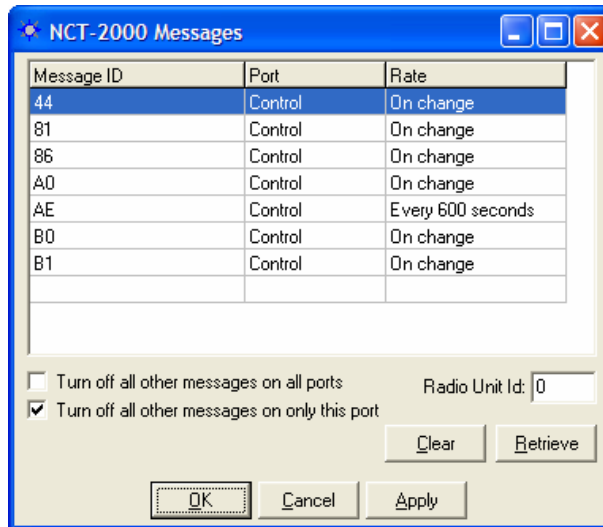
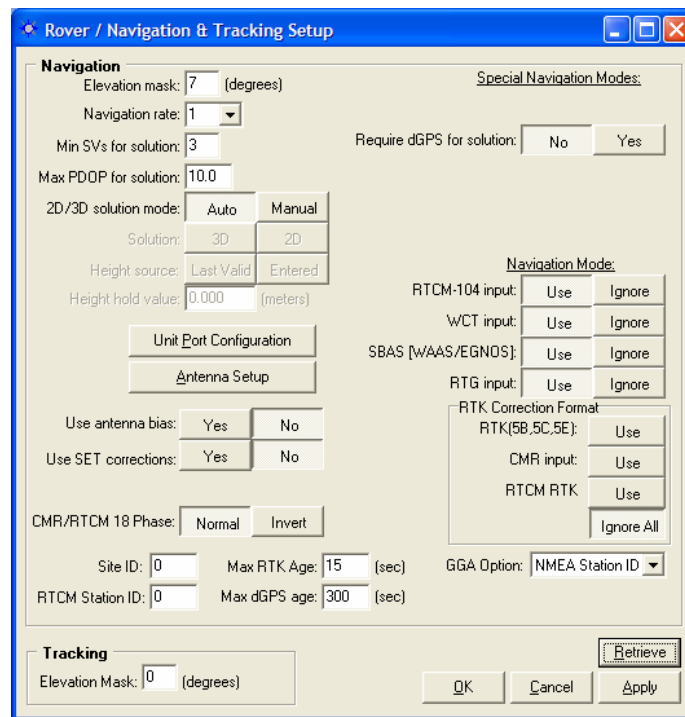

Figure 7: NCT-2100/NCT-2000 Message List
Figure 15: Rover Navigation & Tracking Parameters Setup
After choosing the message output type [in this case NCT Binary] the window shown in Figure 7 will appear allowing you to add or delete any of the NCT Binary messages, and schedule the frequency of their output.
3. Navigation Mode is set to RTG from the Rover / Tracking & Navigation Setup, Figure 15.
4. SET are applied ("USE") from the Rover / Tracking & Navigation Setup, Figure 15.
Typically the receiver will come from the factory setup as a GPS autonomous rover. Depending on the options purchased, you may set the receiver up to accept dGPS/RTK/RTG corrections from an external source. Figure 15 shows the Navigation & Tracking Setup window and the various options available to the user as a rover. This menu comprises message blocks 0x47 (SV Tracking Control), and 0x49 (Solution Control). Access this window by clicking RECEIVER/SETUP/ROVER-TRACKING & NAVIGATION, or click the Rover icon on the main StarUtil toolbar.
In a small number of instances, there may be a requirement where the RTCM phase corrections are received in an “inverted” state. StarUtil will correct the sign of the corrections automatically so they may be applied without prejudice. This will be accomplished if the Invert button (see Figure 15) adjacent to RTCM 18 Phase is set to Inverted.
The Site ID field (see Figure 15) defaults to 0, which indicates that the receiver will accept RTK corrections from any base receiver that is transmitting. In order to use the RTK corrections from a specific base receiver, the Site ID field in the base and rover must be the same value. The RTCM Site ID works in similar fashion for dGPS.
In order for the information in the View windows to update, the associated message must be enabled in the NCT-2100/NCT-2000 Message List, see Figure 7. The rate at which the View window data is updated will be at the output data rate chosen in the NCT-2100/NCT-2000 Message List, with the exception of the 0xB1 message. The data rate for the 0xB1 message is controlled through the Rover Navigation & Tracking window; see Figure 15.